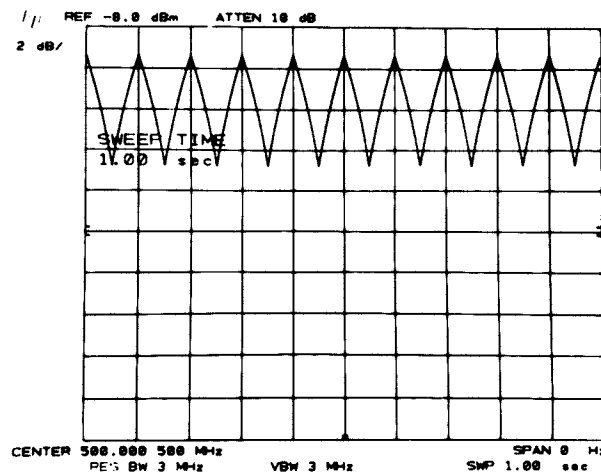

Figure 4-29. Sweep Time Measurement (Alternate Procedure)
8. Place signal generator AM switch in the DC position and adjust AM level for a peak-to-peak signal amplitude between two and three divisions. Refer to Figure 4-29. Adjust **REFERENCE LEVEL** for convenient viewing. Be sure signal generator FM switch is OFF.